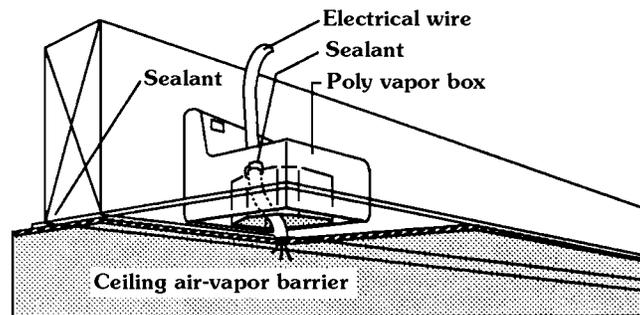

Figure 7.12: Using a polyethelene "hat" to seal an electrical box in the ceiling
- Placing the electrical box in a pre-fabricated polyethylene envelope (poly hat) (Figure 7.12).